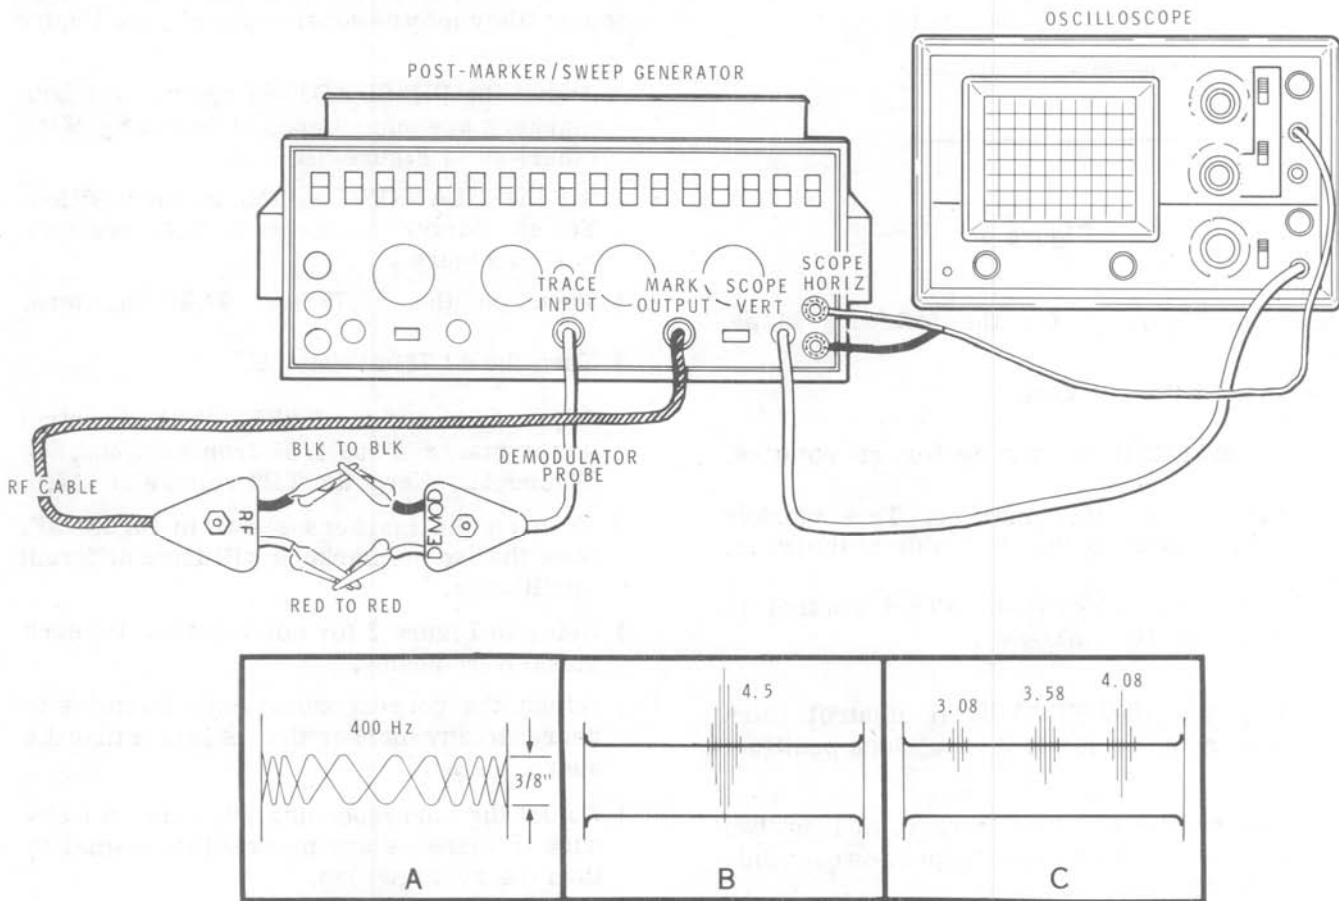

Figure 3 ADJUSTMENTS
- Refer to Figure 3 and connect the Post-Marker/Sweep Generator and your oscilloscope as shown.